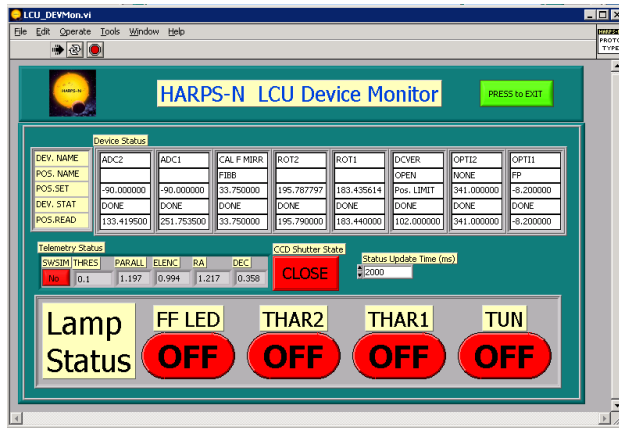

Figure 4 - LCU Device Monitor
3. On the *LCU Device Monitor* verify the lamps status (Figure 4)
3. On the **LCU Device Monitor** verify the lamps status (Figure 4)